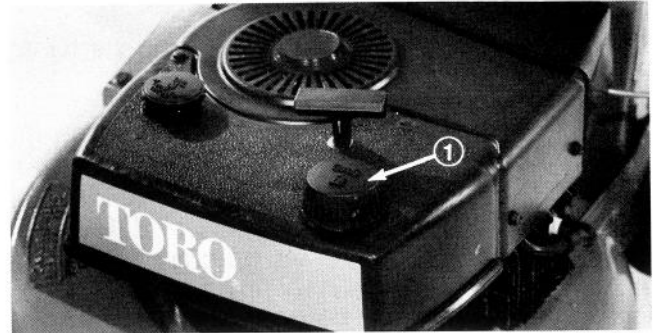

Figure 9
1. Clean area around fuel tank cap and remove cap from tank (Fig. 9).